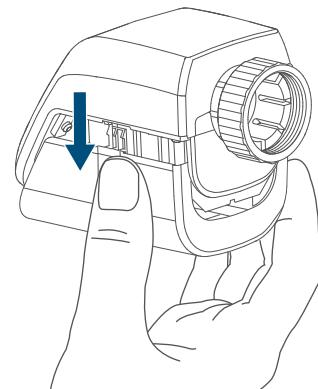

Figure 2
- Press and hold down the system button of the radiator thermostat (D) for at least 4 seconds to activate the pairing mode (see figure 2). The device LED (D) starts to flash orange. Pairing mode remains activated for 3 minutes.
- Press and hold down the system button of the window / door contact with magnet (L) for at least 4 seconds to activate the pairing mode. The device LED (L) starts to flash orange.
- Open the battery compartment (B) by pulling the battery compartment down (*see „Figure 2“ on page 27*).